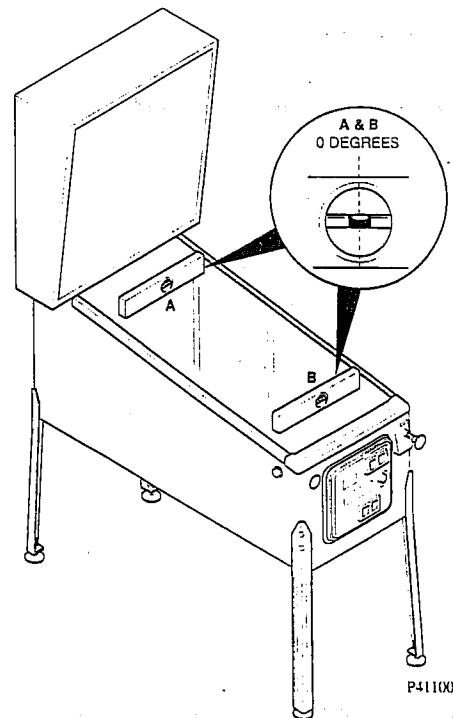

FIGURE 9: CABINET LEVELING
18) Place a level in position "A" on the playfield glass (see Figure 9). Adjust the rear leg levelers, as required, to obtain zero degree (0°) balance. Move the level to position "B" and repeat front & rear adjustments until cabinet appears level. **DO NOT** tighten leveler nuts firmly at this stage; an additional adjustment is required.